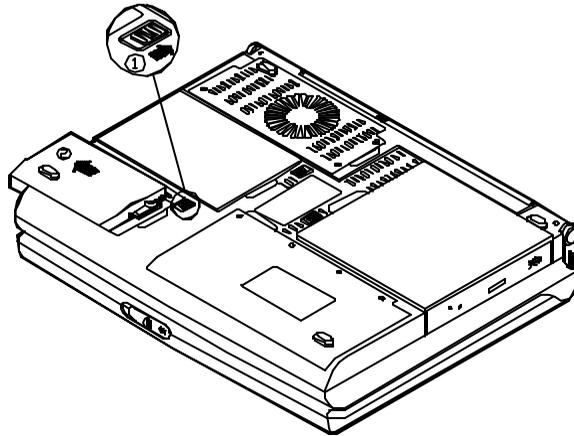

Figure 2-11
4. Press the latch in the illustrated direction and slide the hard disk drive out of the Notebook (Figure 2-11).